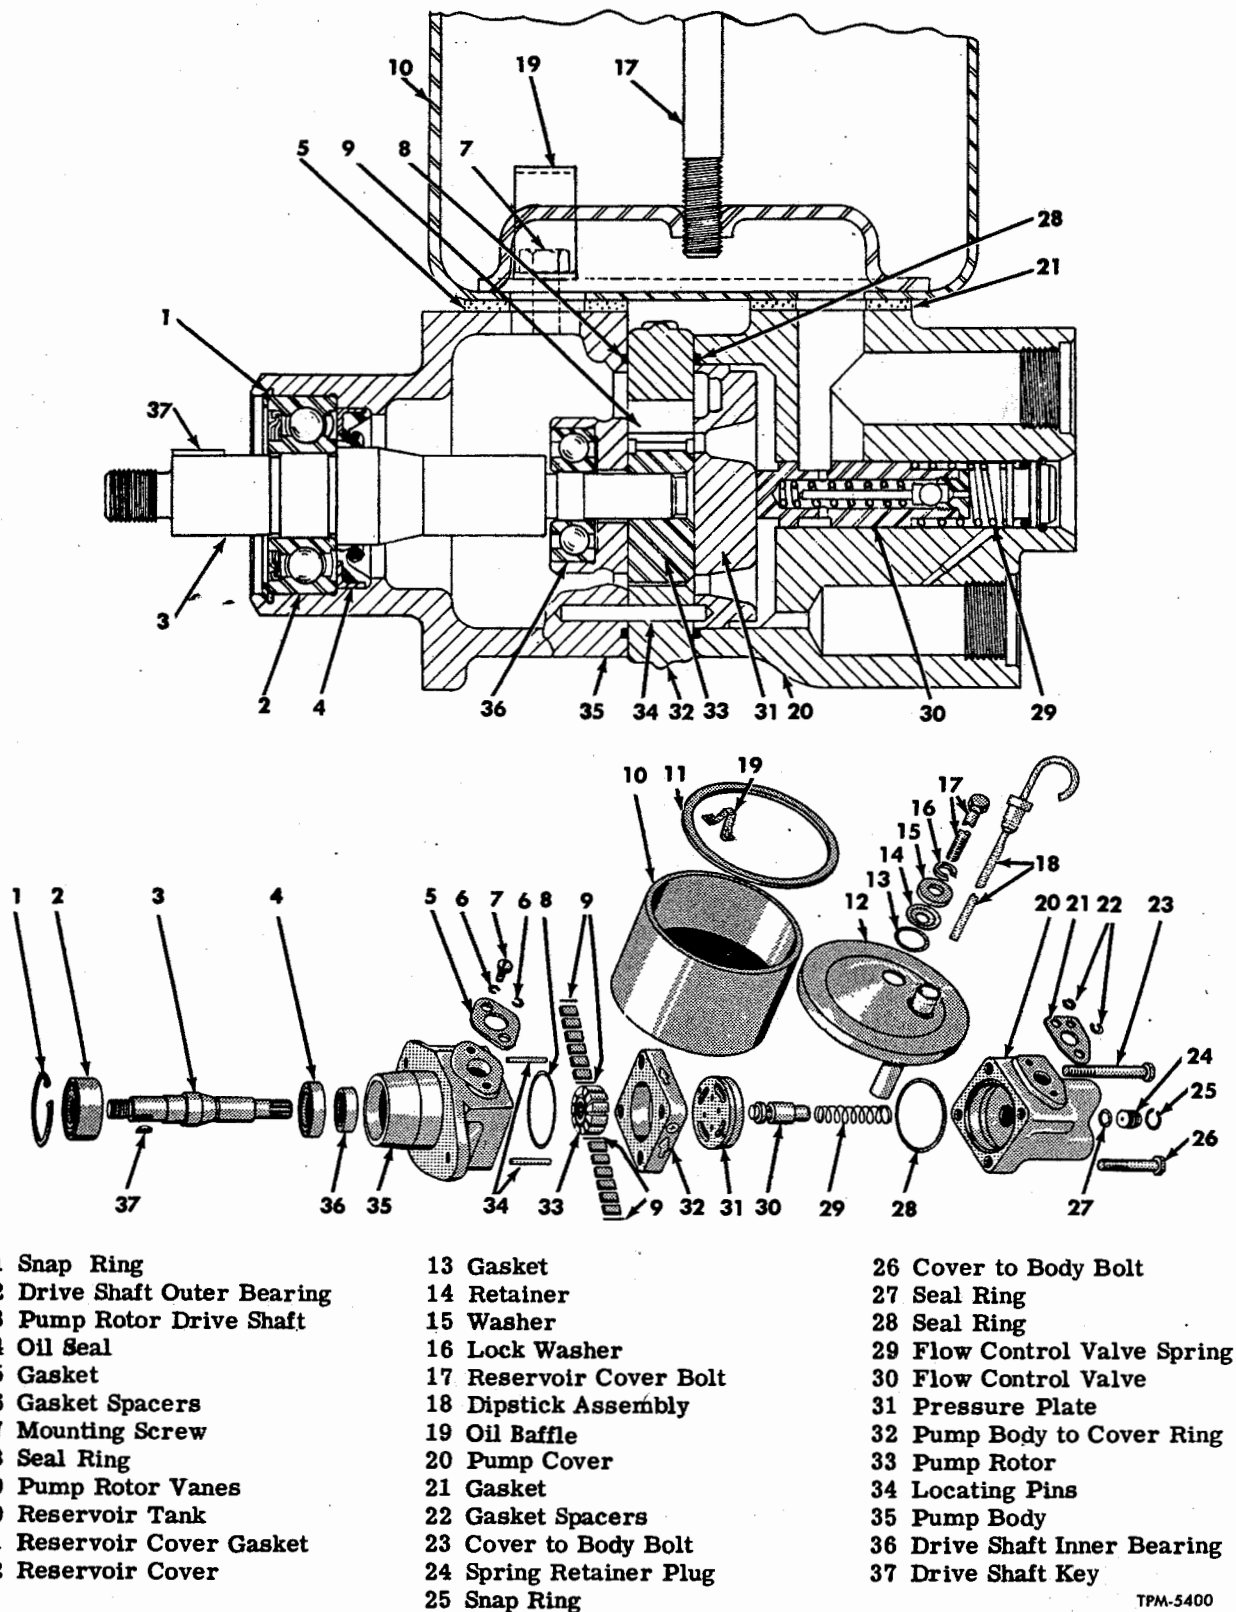
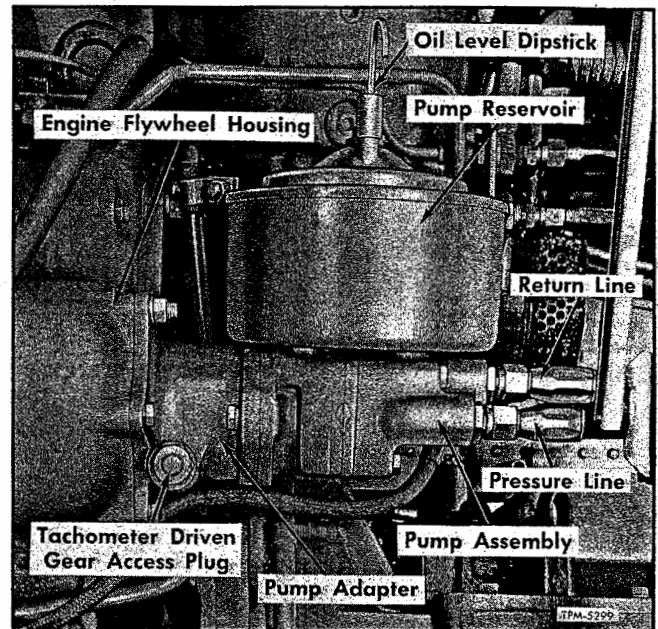
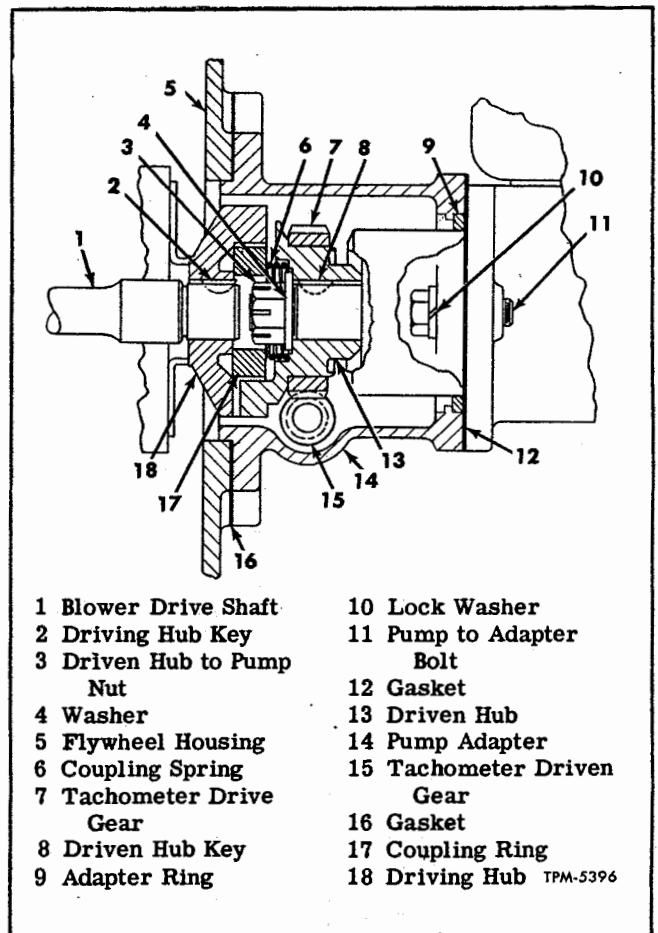

Figure 18—Power Steering Pump Components (Typical)
Figure 19—Power Steering Hydraulic Pump Installed
Figure 20—Power Steering Pump Drive
The power steering pump (fig. 18) is a vane type, self contained hydraulic unit which supplies hydraulic power for operation of a steering booster cylinder at front axle. Pump is mounted on gear train cover at rear of engine (fig. 19), and is driven by an accessory drive gear through a coupling (fig. 20).
NOTE: Key numbers in text refer to figure 20.
1. Remove tachometer access plug and driven gear from power steering pump drive adapter (fig. 19).
3. Remove bolts, nuts, and lock washers attaching power steering pump and pump adapter to engine flywheel housing. (fig. 19).
4. Using care to avoid dropping coupling ring (17) and coupling spring (6), remove power steering pump and pump adapter from engine.
5. Remove coupling ring (17) and coupling spring (6); then remove adapter to flywheel housing gasket (16). Discard gasket.
6. Slide power steering driving hub (18) from splines of engine blower drive shaft.
7. Remove two bolts (11) and lock washers (10) attaching power steering pump to adapter (14).
8. Remove nut (3) and plain washer (4) attaching power steering pump driven hub (13) with tachometer drive gear (7) to pump drive shaft.
9. Remove driven hub and adapter from power steering pump; then remove driven hub key (8) and discard adapter to pump gasket (12).
10. If necessary, remove adapter ring (9) from adapter.
1. Using Woodruff key (8), install power steering pump driven hub (13) with tachometer drive gear (7) on splines of pump drive shaft.
2. Install nut (3) and plain washer (4) attaching power steering pump driven hub (13) to pump drive shaft. Tighten nut to 55 ft. lbs. torque.
3. Position adapter ring (9) into adapter, then attach adapter and new gasket to power steering pump, using two bolts (11) and lock washers (10).
4. Position coupling spring (6) and coupling ring (17) in pump adapter over driven hub retaining nut.
5. Using Woodruff key (2) position power steering pump driving hub (18) on splines of blower drive shaft.
6. Using new adapter to flywheel housing gasket (16), position power steering pump and adapter assembly on flywheel housing; then attach with bolts, nuts and lock washers (fig. 19). Tighten bolts and nuts securely.
NOTE: Key numbers in text refer to figure 18, unless otherwise specified.
NOTE: Key numbers in text refer to figure 18.
pointed in a counterclockwise direction when pump is viewed from the drive end (fig. 19).